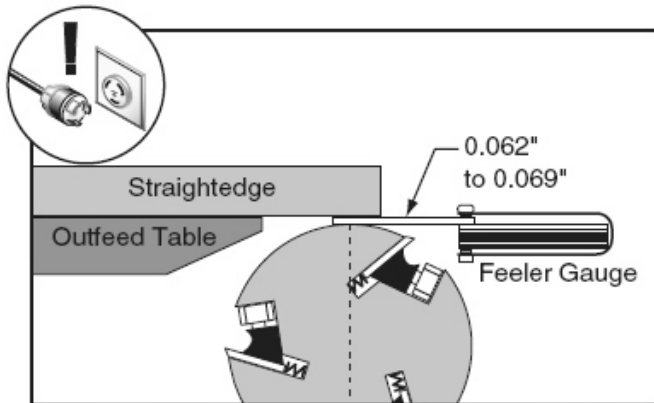

Figure 32. Using feeler gauge to check outfeed table–cutterhead height.
4. Try to fit a feeler gauge or combination of feeler gauges 0.062" to 0.069" between the bottom of the ruler and the cutterhead body as shown in Figure 32.